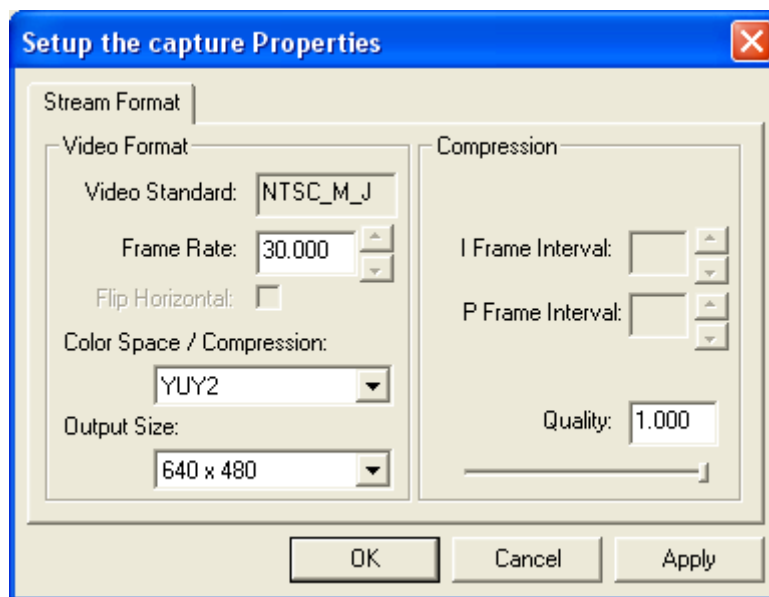

Figure 3. Video Capture Pin Properties
**"Video Capture Pin..."** will display video capture pin property pages. See figure 3.